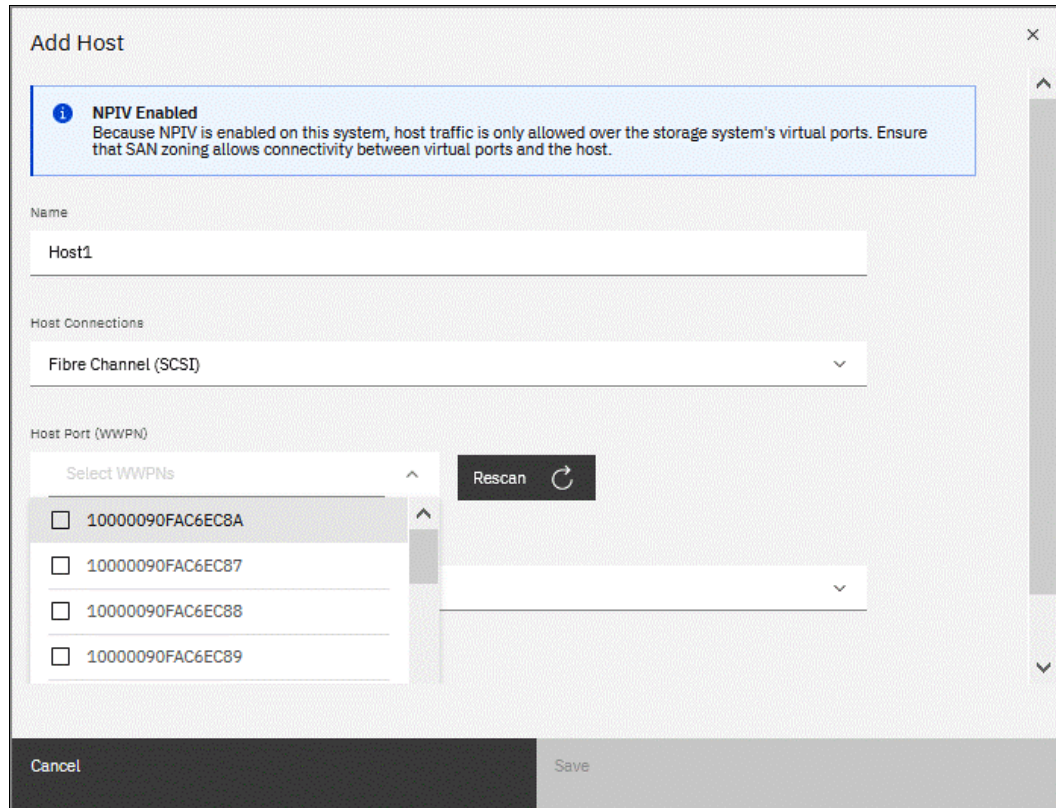

Figure 7-8 Selecting the host WWPNs
2. Enter a hostname and click the **Host Port** menu to get a list of all discovered WWPNs (see Figure 7-8).